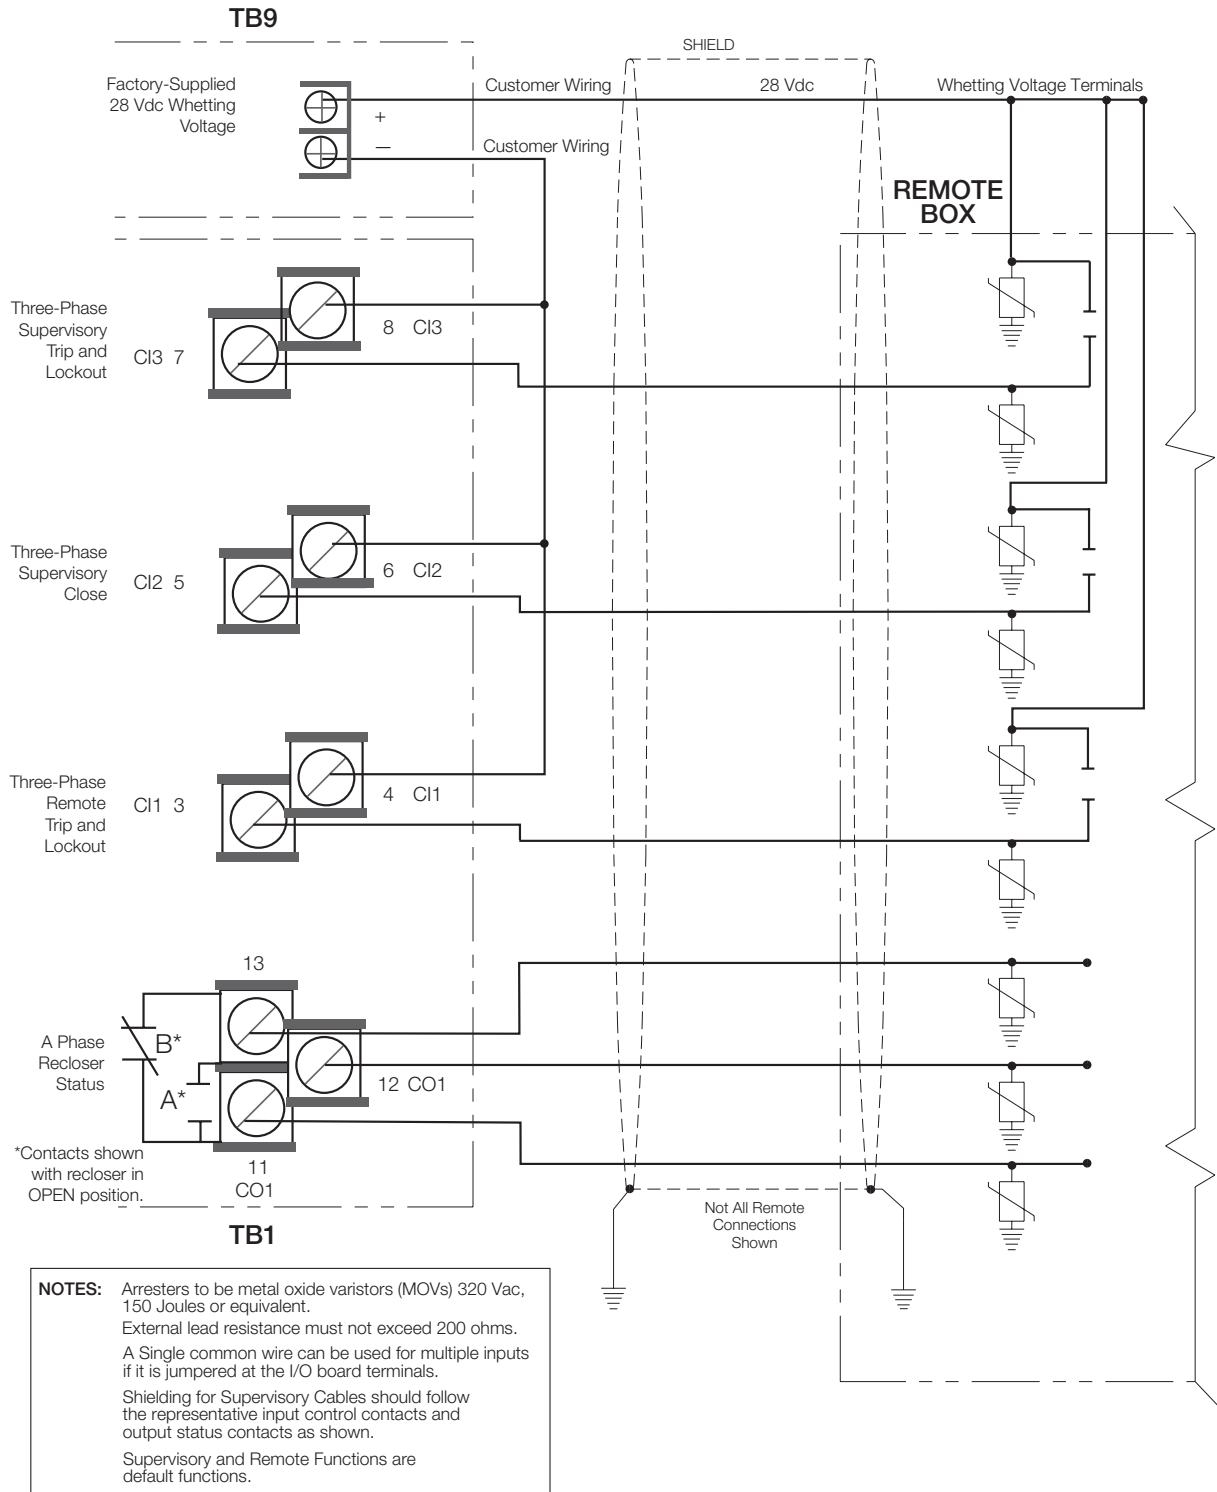

Figure 23. Shielding and surge protection for supervisory and remote cables
All supervisory operation and control monitor leads must be protected within shielded cables. Refer to **Figure 23**.
12. Customer connections for remote and supervisory operation checked and completed in accordance with proper shielding and surge protection (**Figure 23**).